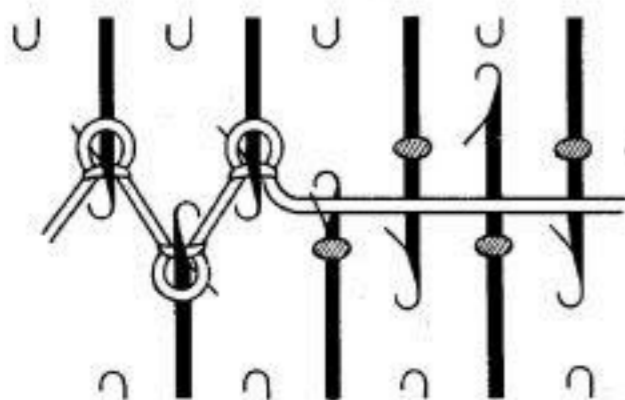

Fig. 82
2. At the same end as the carriage, hold the yarn between the feeder and the needles, slightly upwards. Now select the first needle in Holding Position (i. e. the one nearest to the needles in working position) and guiding the yarn into its hook, push this needle back into working position. (Fig. 82)